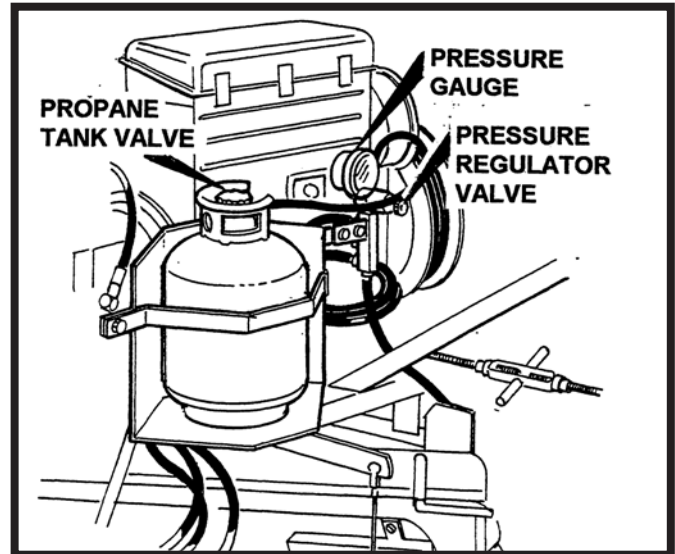

Figure 9
1. Open the main valve on the propane tank. Set the pressure regulator valve so pressure gauge reads between 5 to 8 pounds. See figure 9.